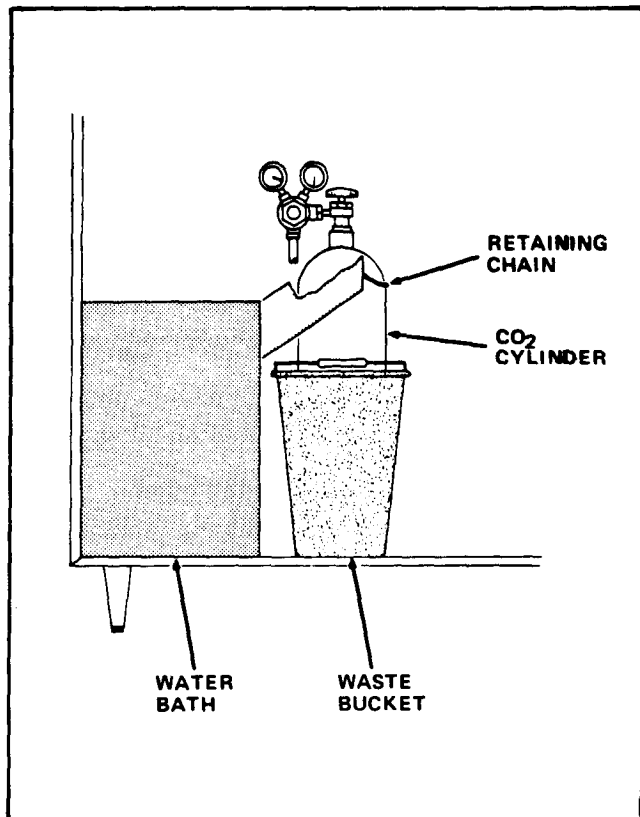

FIGURE 10
- a. Position the CO₂ Cylinder in the Merchandiser and attach the Retaining Chain to hold the Cylinder upright and in place. See Figure 10.